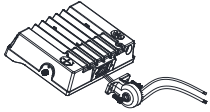

figure 1.1
Step 2: Match the hole of rubber mat with bracket, pass wire through and fix it with screws (Watch out not to scratch the wire); (figure 1.1)